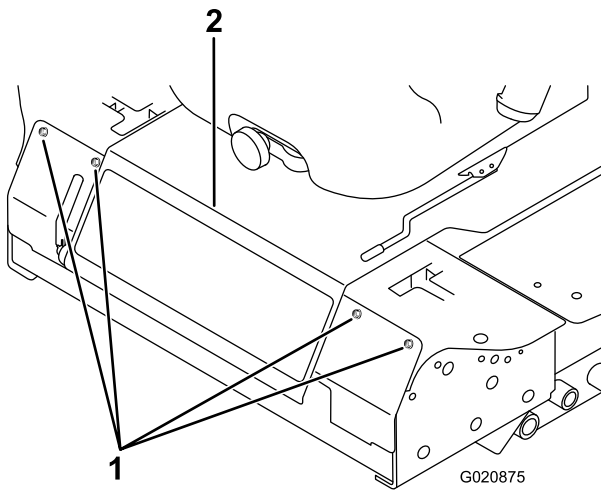

Figure 83
3. Remove the bolts securing the front panel and remove the panel (Figure 83).